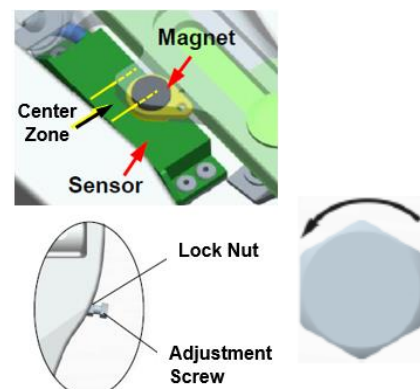

FIGURE 16
Verify the Handle Magnet relative to the Sensor (see figure 16).
B. If centered, turn adjustment screw out 2 full turns. or until the alarm stops (see figure 16). The key may need to be cycled to reset the system.